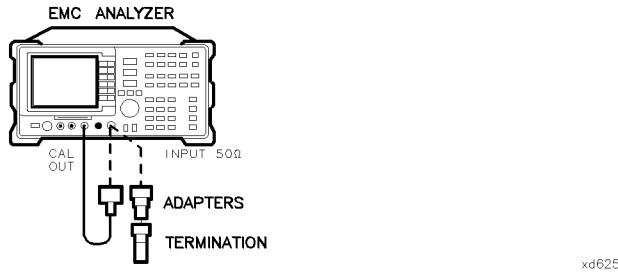

Figure 2-62. Displayed Average Noise Level Test Setup, HP 8593EM
1. Connect a cable from the CAL OUT to the INPUT 50 Ω of the EMC analyzer as shown in Figure 2-62.